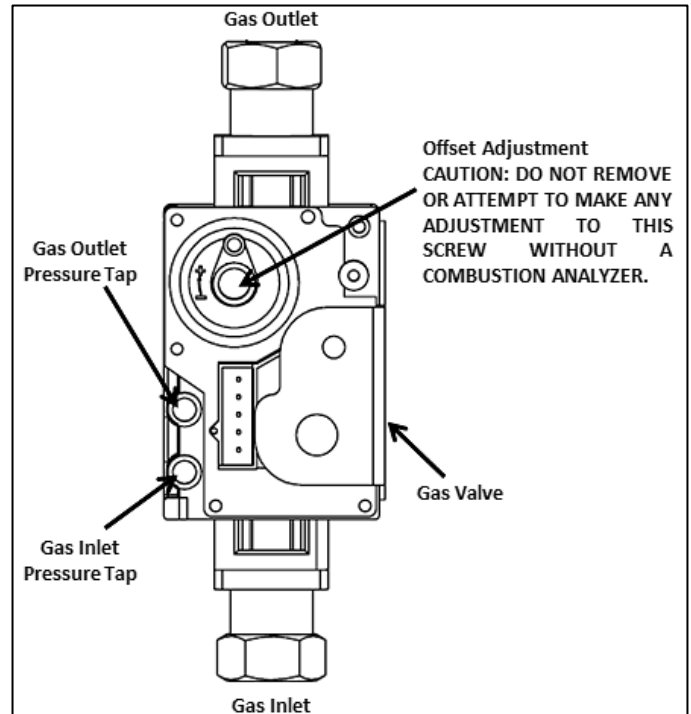

Figure 44 –Gas Valve Detail
NOTE: Refer to Figure 44 when adjusting gas pressure. Loosen the screw before checking the gas inlet pressure.
3. Loosen the gas inlet pressure tap screw three turns with a screwdriver. Connect the manometer to the inlet gas pressure port. See Figure 44.